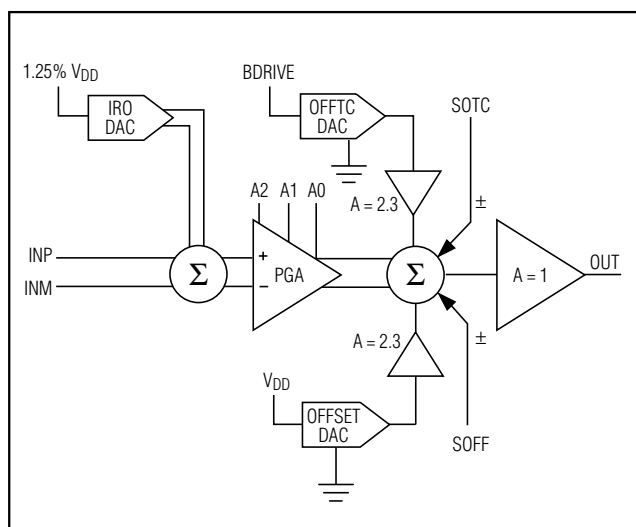

Figure 3. Signal-Path Block Diagram
Compensating offset TC errors involves first measuring the uncompensated offset TC error, then determining what percentage of the temperature-dependent voltage  $V_{\text{BDRIVE}}$  must be added to the output summing junction to correct the error. Use the offset TC DAC to adjust the amount of  $V_{\text{BDRIVE}}$  voltage that is added to the output summing junction (Figure 3).
- Differential to single-ended output buffer with rail-to-rail output (Figure 3)